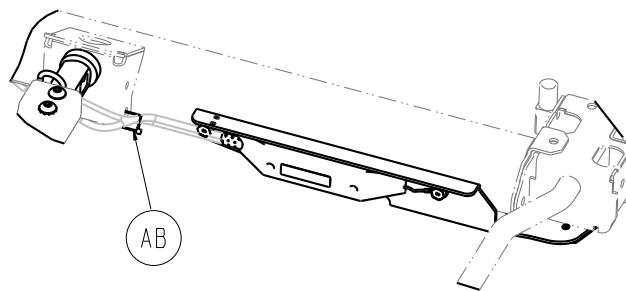

Figure 40 – Cable tie location - IR/nurse call assembly
8. Using wire cutters, cut the cable tie (AB) that secures the IR/nurse call assembly cable to the head end lift header ground wire on the patient right side (Figure 40). Discard the cable tie.
- d. Using a ratchet and 1/2" socket, install the remaining hex washer head thread rolling screw (AG) (removed in step 10) to secure the foot end of the IR/nurse call assembly.
13. Using a supplied 8" cable tie (3000-300-113) (AB), secure the IR/nurse call assembly cable to the litter frame (Figure 40).